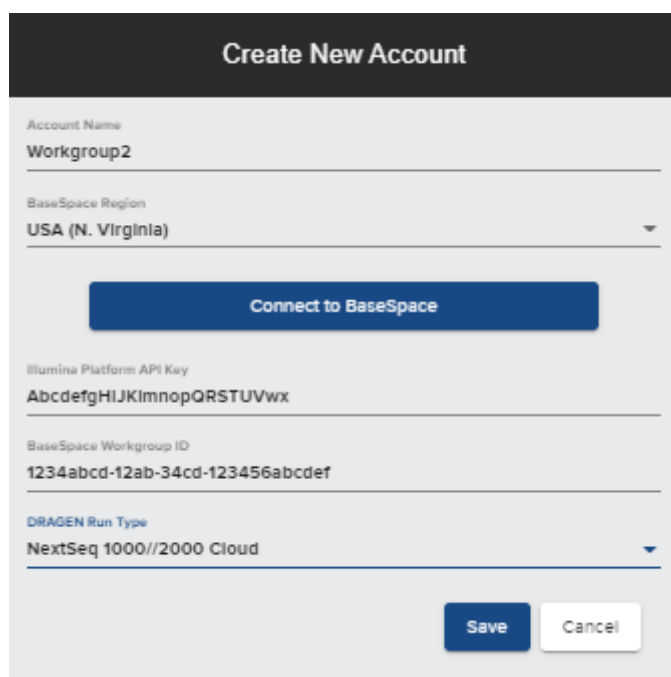

Figure 35: Illumina BaseSpace Admin pop-up
4. In the pop-up window (Figure 35), create an Account Name for this workgroup connection.